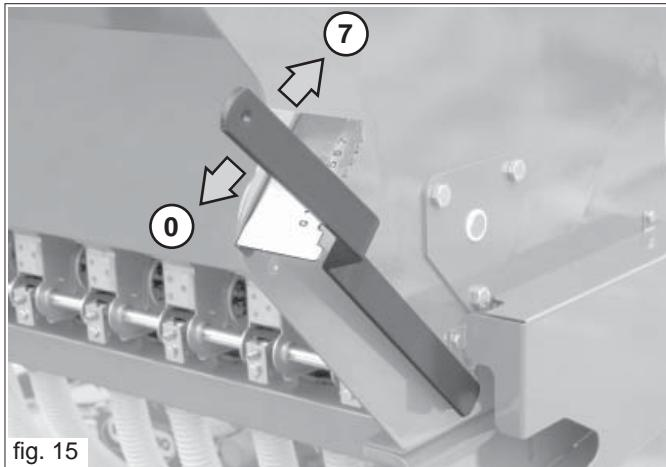

fig. 15
The bottom plate adjustment lever (Fig. 15) is positioned on the right side of the machine and works on a scale that is graduated from 1 to 7 positions. This lever must be positioned according to the number given in the seed planting table for the type of seed used. Position the lever of the bottom plate (to the right of the hopper) on the 7-position pointer (Fig. 15):
- 1) position the lever (Fig. 15) on reference «0»;